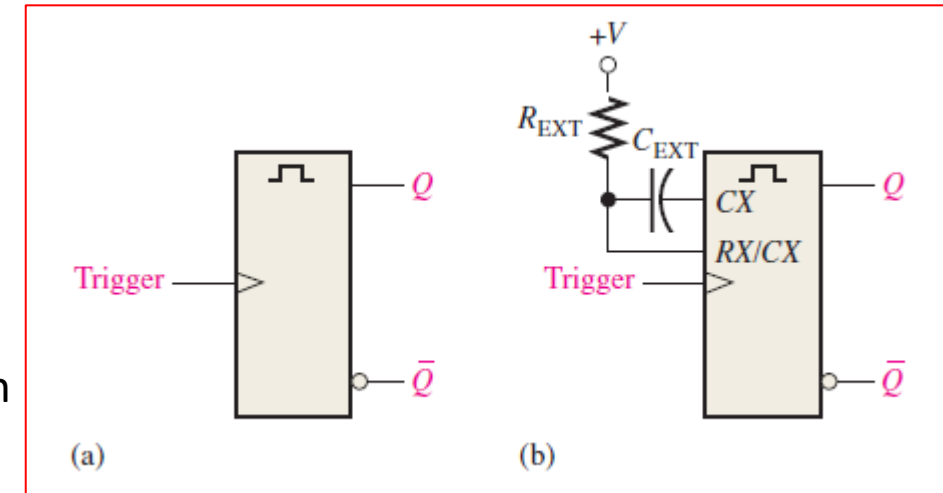

FIGURE 44 Basic one-shot logic symbols. CX and RX stand for external components.
- A typical one-shot logic symbol is shown in Figure 44(a), and the same symbol with an external R and C is shown in Figure 44(b). The two basic types of IC one-shots are nonretriggerable and retriggerable.